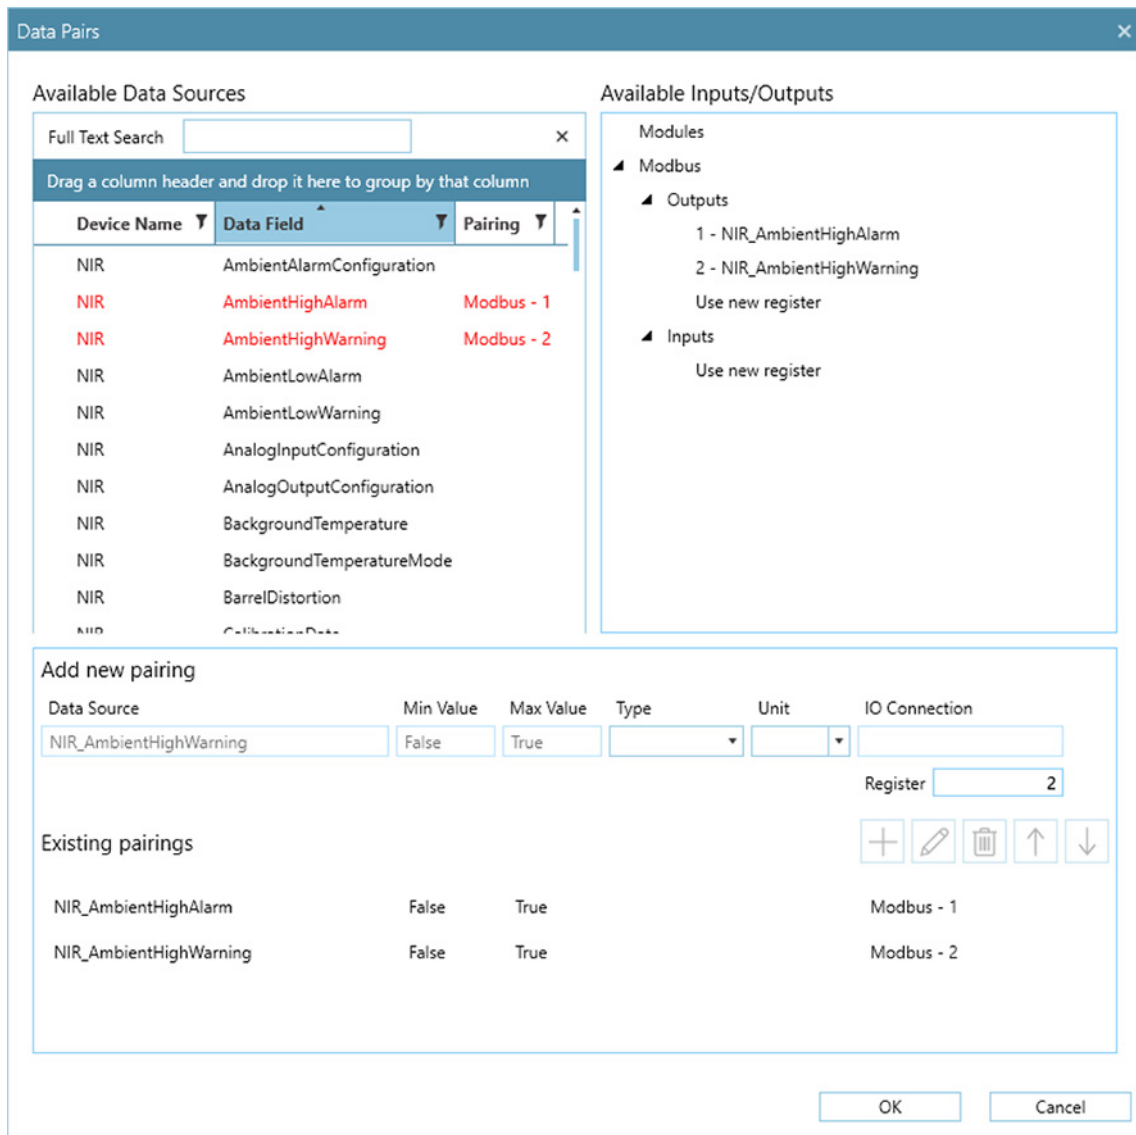

Fig. 5-1 Typical Data Pairs window
- 1) To configure data for input or output via Modbus, first open the Data Pairs window (**Configuration > Communications > Data Pairs**). Refer to Fig. 5-1 (opposite).